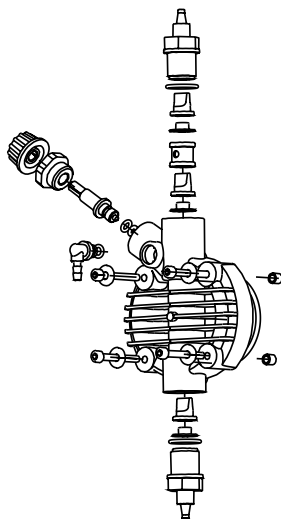

Fig. 10
3. Drain or flush all dosing liquid from the pump head. This operation can also be done with the pump disconnected from the plant by turning the pump upside-down for 15 to 30 seconds and without connecting the tubing to the nipples: if this operation is not possible, dismount and remount the pump head using the four mounting screws. (Fig. 10).
- the additive concentration in the pipework; a reduction of this concentration could be caused by the wearing of the valves, in which case they need to be replaced (Fig. 10) or by the clogging of the filter which then has to be cleaned as in point 3 here below.
This operation can also be done with the pump disconnected from the plant by turning the pump upside-down for 15 to 30 seconds and without connecting the hose to the nipples; if impossible, dismount and remount the pump head (Fig. 10) using the four mounting screws.
As the system is quite robust there are no apparent mechanical problems. Occasionally there might be a loss of liquid from the nipple because the tube nut has loosened, or more simply the discharge tubing has broken. Very rarely there may be losses caused by the breakage of the membrane, or by the membrane seals in which case they have to be replaced by disassembling the four screws of the pump head fig. 10), when re-mounting the pump head ensure that the screws are replaced properly, along with "O" ring. After repair, the metering pump will need to be cleaned of additive residues which can damage the pump casing.
❶ THE METERING PUMP GIVES PULSES BUT THE ADDITIVE IS NOT INJECTED
- a. Dismount the suction and discharge valves, clean them and replace, see position (fig. 10). Should the valves be swollen, check valves material against our chemical resistance compatibility chart and fit correct valves. Standard valves are Viton. Upon request ball check valve, can be supplied.